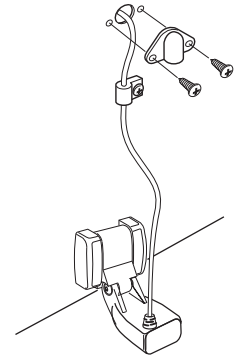

Figure 25
- 2b. If you will be routing the cable through a hole in the transom, drill a $\frac{5}{8}$ " diameter (16 mm) hole above the waterline (Figure 25). Route the cable through this hole, then fill the hole with marine-grade silicone sealant and proceed to the next step immediately.